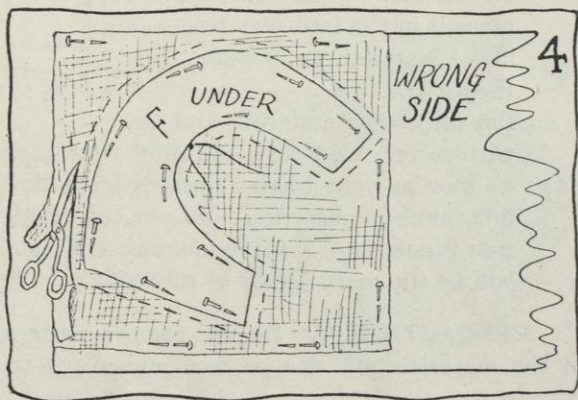

FIG. 4.
- b. Place the crinoline on top of the wrong side of the material with two straight edges of the crinoline exactly even with two straight edges of the material. One corner of the crinoline should be placed exactly on top of one corner of the material and even with it (see Figure 4). This brings the two bias parts together. This is very important in order to get the brim to fall properly.
- d. Lay the pattern on top of the crinoline (or on top of the wrong side of the material if neither the crinoline nor the interlining is desired) with the *top side of the pattern* against the crinoline (or the wrong side of the material), and with the front of the pattern at the corner of the materials and the edge of pattern $\frac{1}{2}$ inch from edge of materials (see Figure 4, page 215). When the hat is finished, this will be the top facing of the brim.
- f. Put a dotted penciled line or chalk mark (chalk on fabric, pencil on crinoline) $\frac{1}{2}$ inch beyond all edges of pattern. Be accurate in measuring and marking, if you want the brim to turn out well (see Figure 4, page 215).
- g. Cut very carefully on the dotted penciled line or chalk mark (see Figure 4, page 215)—**not on the edge of pattern**. The piece of material you have just cut out will be the *top facing* of your brim.
- h. Put a white stitch in it at the front (but do not catch the paper pattern) so that you will know which is the top facing, and exactly where the front is (see Figure 4, page 215).